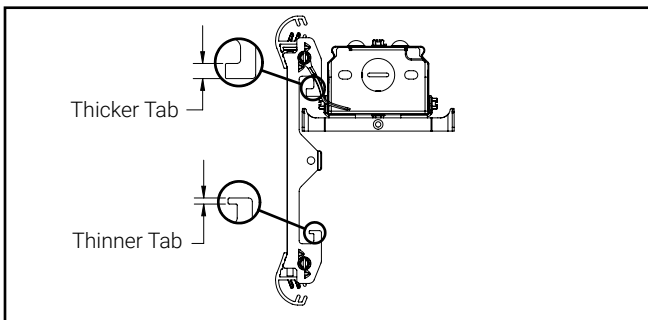

Figure 3.1
- B. Keep waveguide assembly vertical, make sure the thicker tab end is above the channel hinge bracket. The waveguide bracket with thicker tab will also have the safety cable installed next to it. (Figure 3.1)